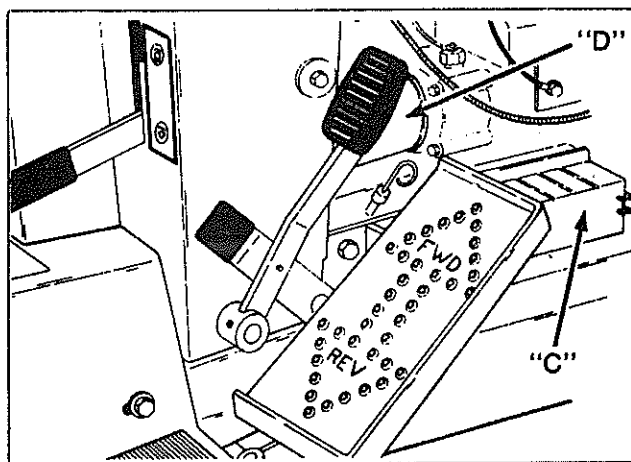

FIGURE 4-5
There is a fuel filter (C) Figure 4-5 in the line from the fuel tank. This filter is a throw away type. When replacing the filter turn off the fuel valve. This valve is located under the fuel tank. Before the filter can be replaced the pressure inside the filter must be relieved. Follow the instructions below.